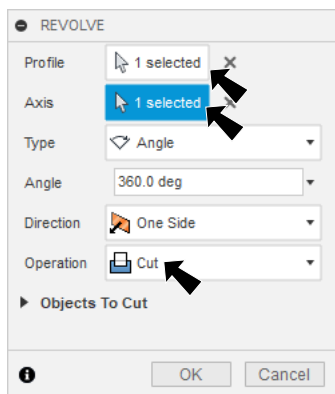

Fig. 18
Step 9. In the Revolve panel set, **Fig. 18**